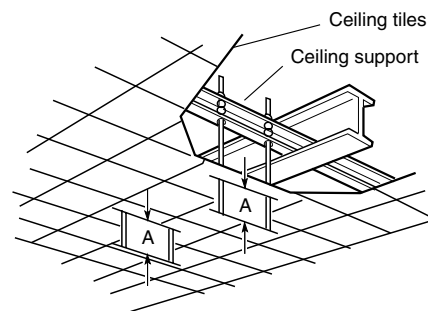

Fig. 3-115
- b) Use existing ceiling supports or construct a suitable support as shown in Fig. 3-115.